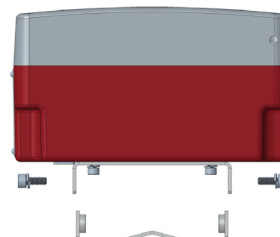

Figure 16: Secure the bracket
2. Align the transmitter's bracket with the mounted bracket. Use a 4 mm hex tool to secure the 4 provided screws from the sides through the mating holes. See *Figure 16*.